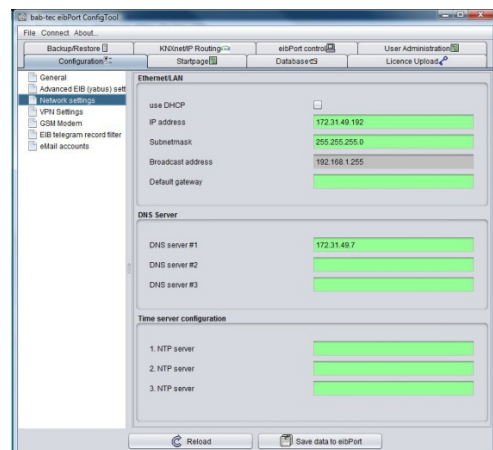

Figure 7: Network Settings window
- Click on the "Network settings" menu item. A window is displayed showing the current settings (figure 7).